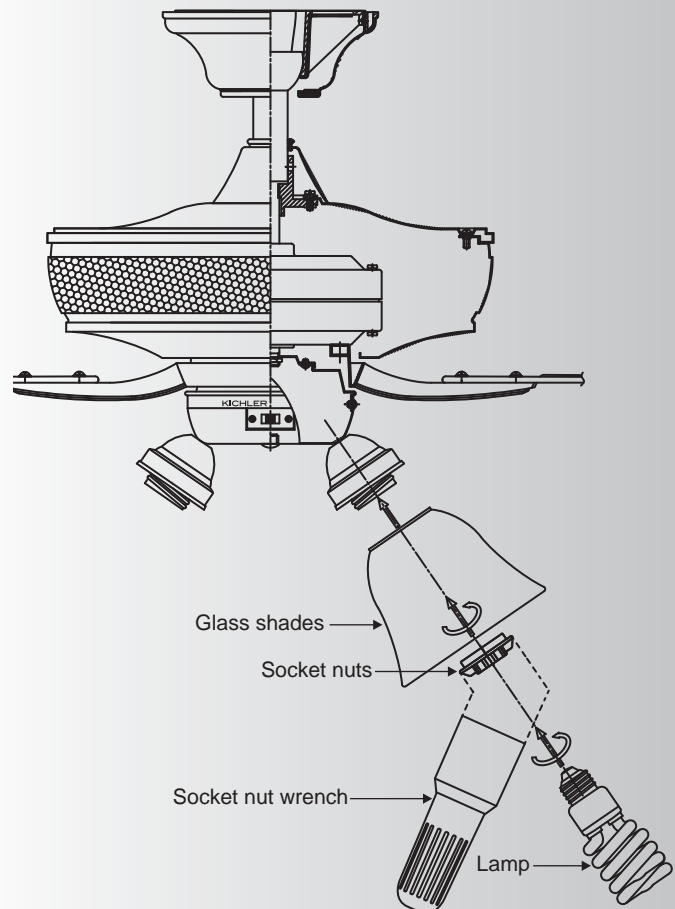

Fig. 19
3. Remove the socket nuts from each socket. Insert a glass shade into the glass holder, then replace and tighten the socket nut until it is tighten firmly. Repeat this procedure for the remaining glass shades. (Fig. 19)
4. Install 4, 13 Watt GU24 compact fluorescent lamps (included). (Fig. 19)